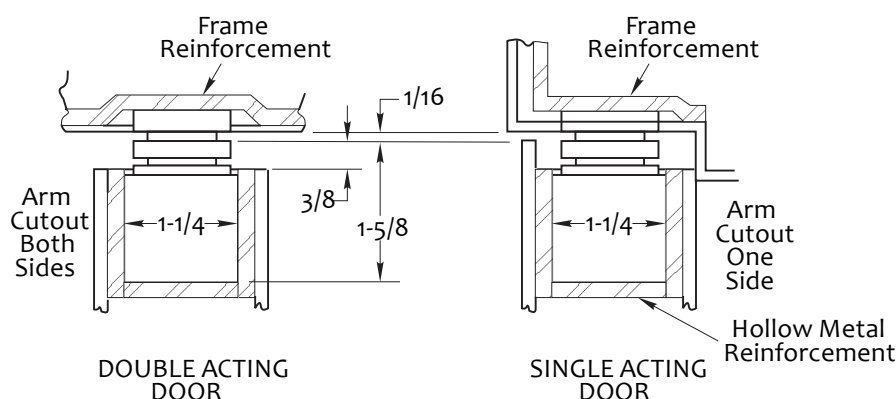

Figure 4 Arm cutout for single and double acting doors
- The jamb bracket shall be reinforced with a backer plate not less than 3/16" thick and 12" long. (Figure 4)
- Maintain a 1/16" clearance between the arm and the door frame. Adjust the mortise dimensions as required to achieve proper clearance. (Figure 4)
- Channel shall be properly reinforced during installation as shown. (Figure 4)
- Determine whether to provide cutouts on both sides based on single-swing or double-swing door configuration. (Figure 4)